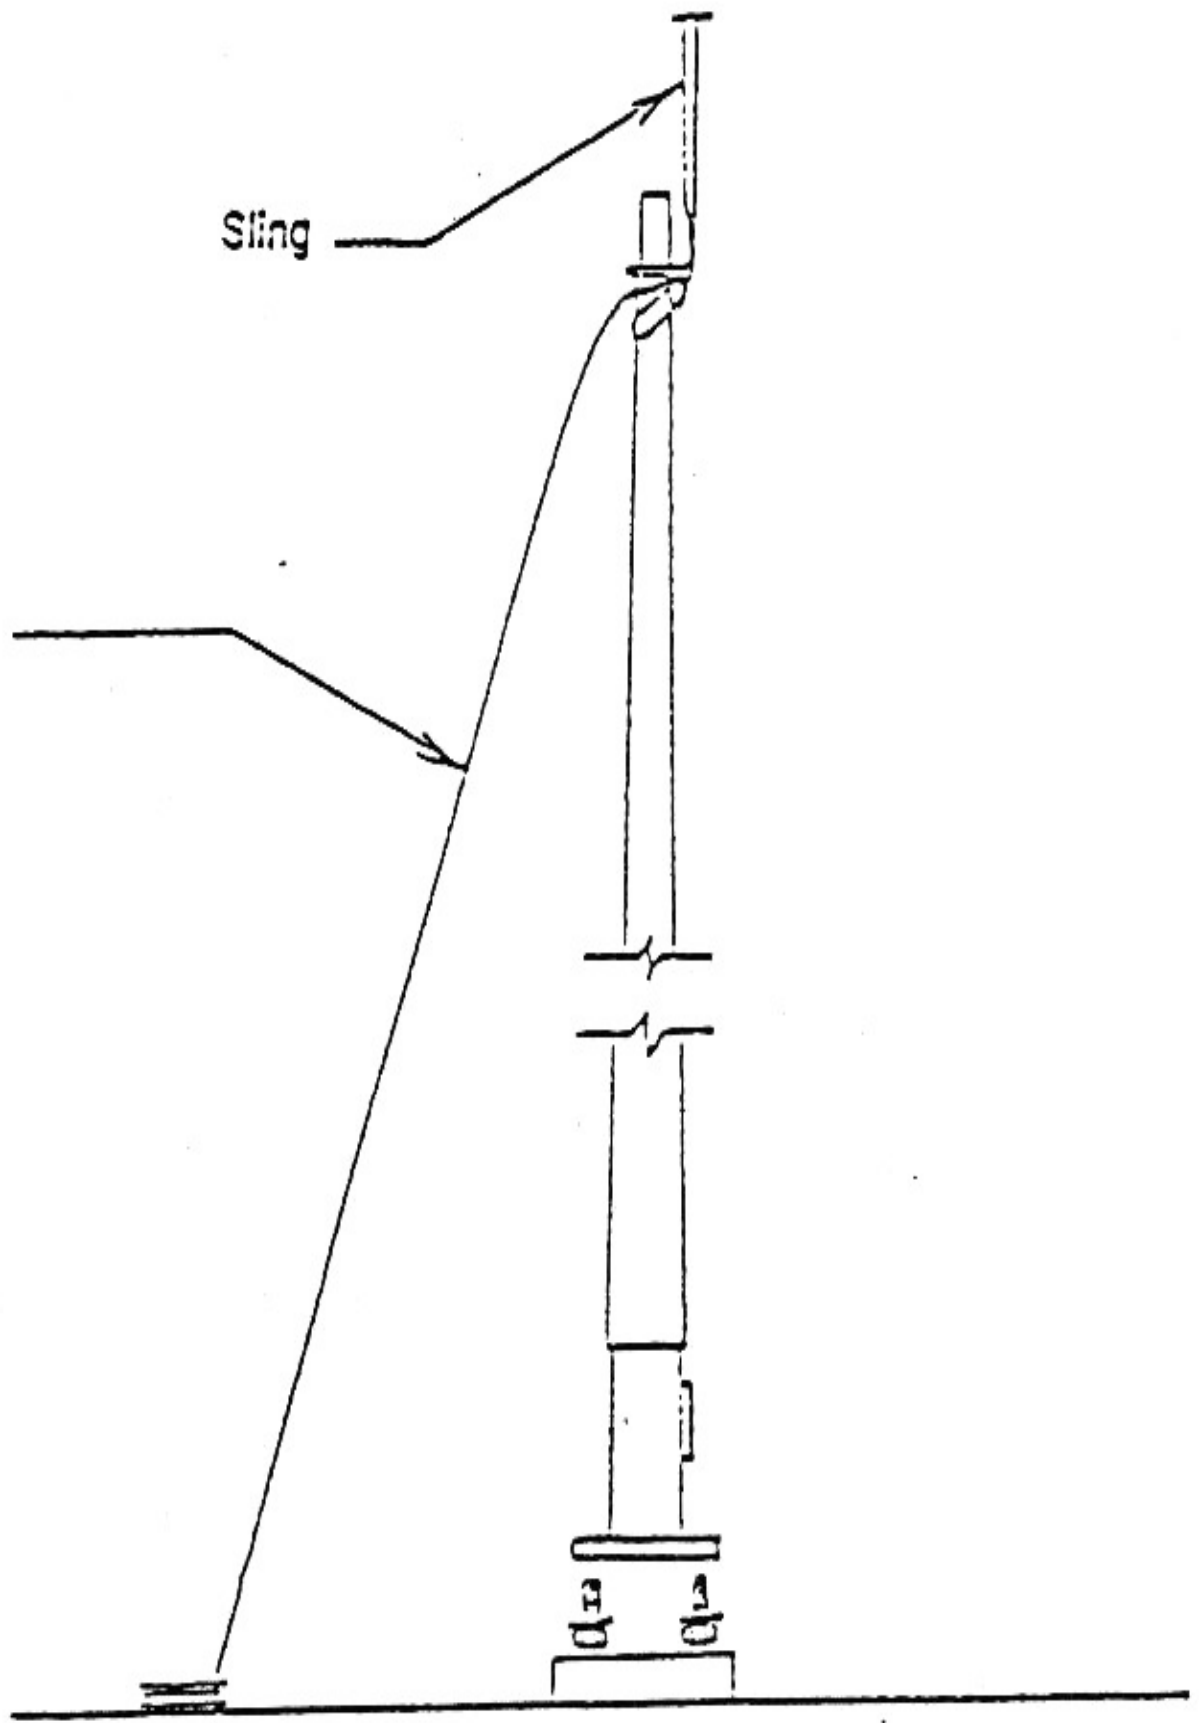

FIGURE 4
8. Position over anchor bolts and set on leveling nut washers if applicable. (FIG.4). (If leveling nuts are not used, place shims as required to plumb pole).